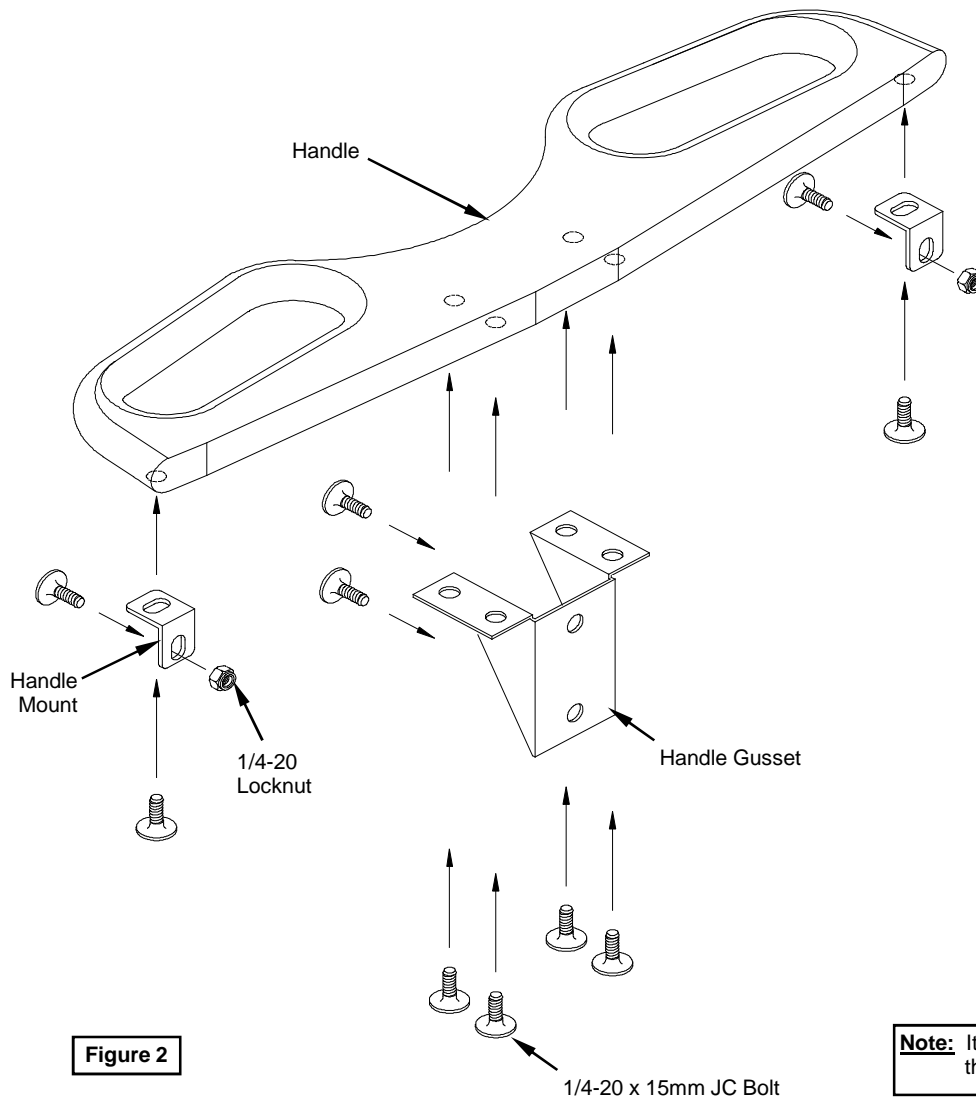

Figure 2
A. Attach the Handle Gusset and Handle Mounts to the bottom of the Handle using 1/4-20 x 15mm JC Bolts. **Figure 2.**